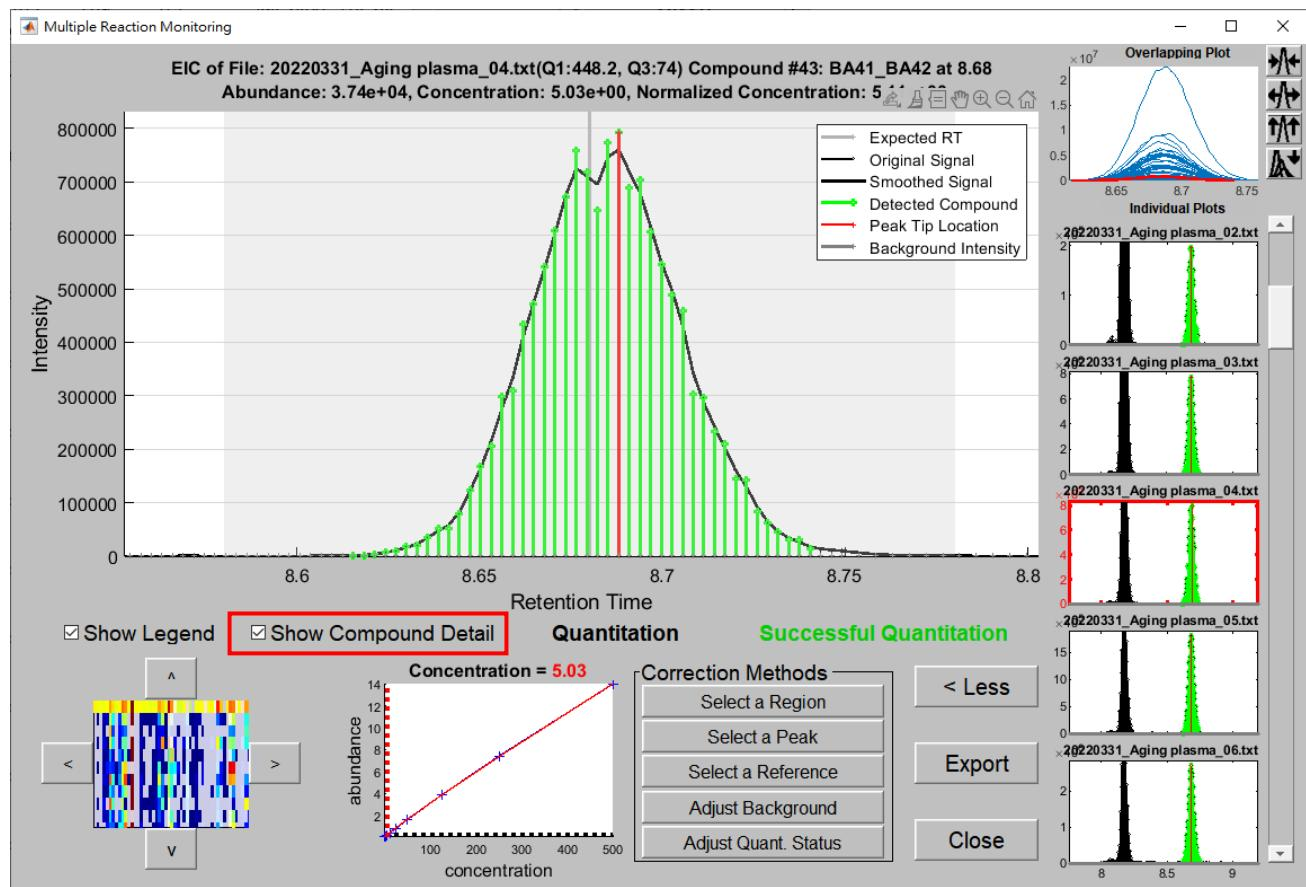
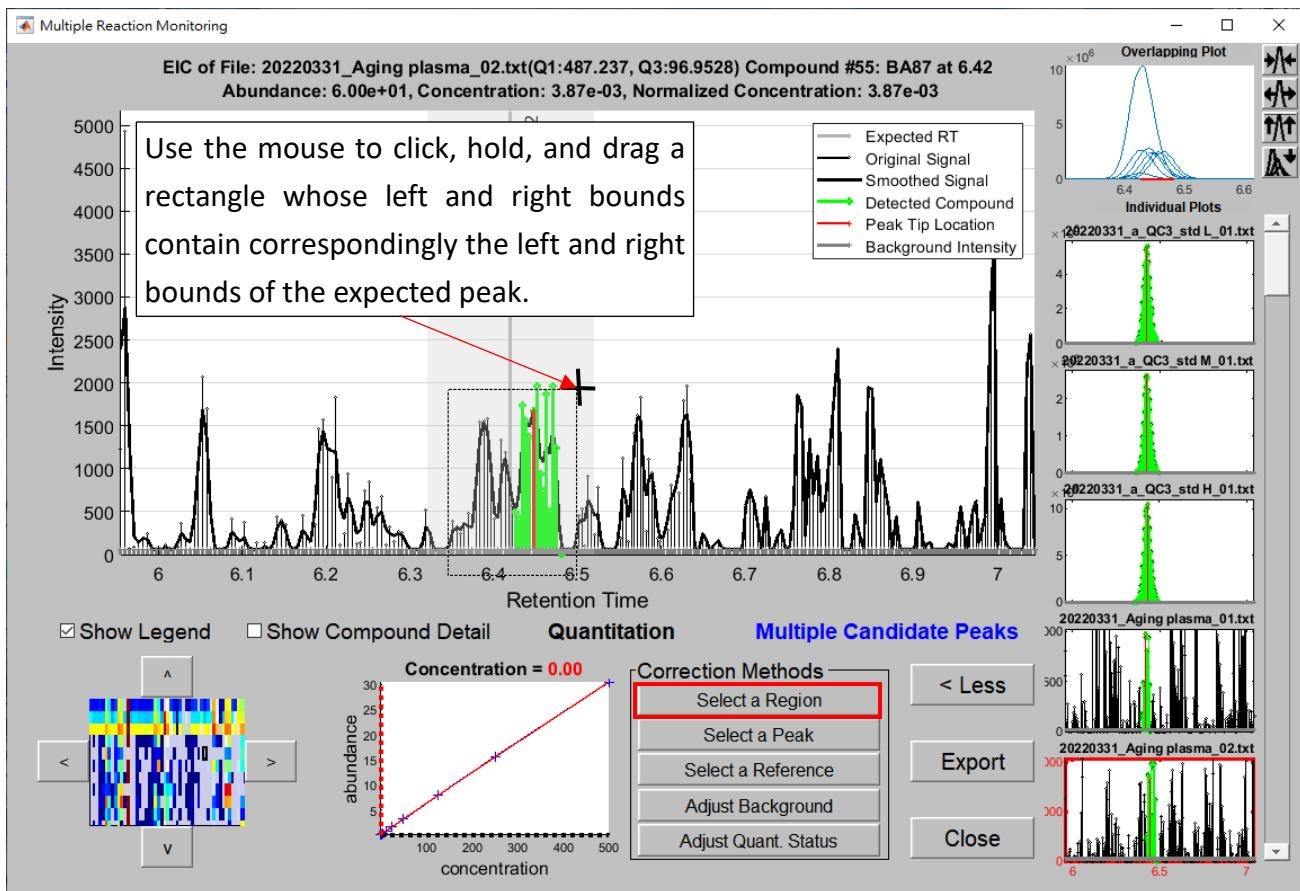

Figure 18. The zoom-in plot of the quantitated compound in the ion chromatogram.
Figure 19. The expected peak region specified by the rectangle created by clicking and dragging the mouse cursor after pressing on the “Select a Region” button.
Panel (b) in the figure exhibits buttons to navigate, inspect, correct, and export the peaks in the ion chromatogram. On the top, there are two checkboxes to show/hide the legend in the panel(a) and to show compound detail by displaying the zoom-in plot of the quantitated peak in the ion chromatogram (as showed in Figure 18) and a text message to show the quantitation status of the compound. On the left, a mini-heatmap with four arrow buttons allows users to browse nearby compounds. On the right to the mini-heatmap, a plot shows the standard curve (the red solid line) of the current compound for the conversion of concentration (the red dotted line) from abundance (the black dotted line) of the current compound and its associated internal standard for the absolute quantitation experiment. On the right to the standard curve plot, there are five buttons designed to correct the quantitation by specifying (1) a peak region, (2) a peak tip, (3) a reference sample, (4) the background intensities, and (5) the quantitation status. Pressing on the “Select a Region” button, the mouse cursor will turn into a “+” sign and the user can then click, hold, and drag a rectangle using the mouse containing the expected peak, as shown in Figure 19. The MRMQuant will determine the possible peak signals from the signals around the rectangle by looking for the local minima on the both sides as the left- and right-boundaries and the local maximum as the peak tip and integrate the signals between the two boundaries as the abundance of the peak, as shown in Figure 20.